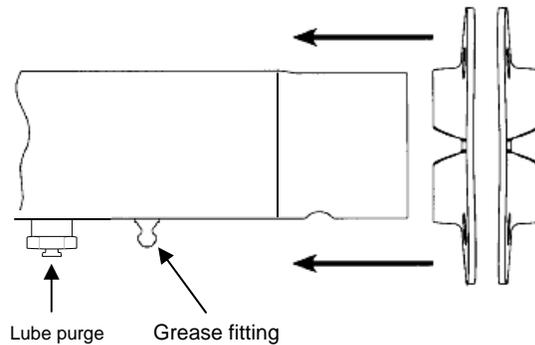

Fig. 8 Install brackets back to back on cam tube
4. Arrange the two cam tube brackets back to back and slide them onto the end of the cam tube assembly (Fig. 8). Slide the brackets onto the cam tube until they contact the suspension beam.